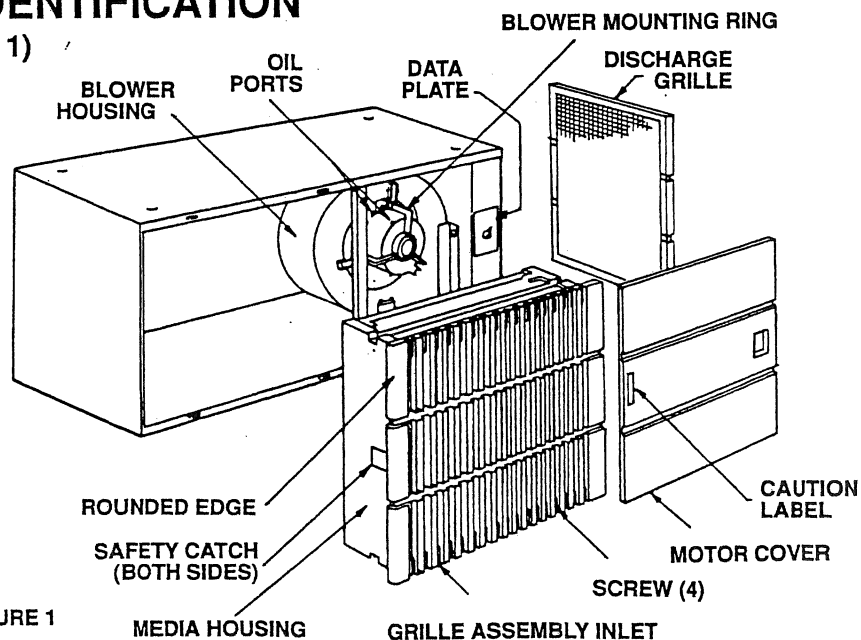

FIGURE 1
(Refer to Figure 1)
1. Loosen four screws on grille assembly (Figure 1).
2. Compress safety catches and pull grille assembly toward you to remove. **NOTE:** Media housing remains attached to grille. (See Figure 1.)
Compress safety catches and set grille assembly into unit, making sure rounded edge is toward end of unit. (See Figure 1.) Align fasteners with receptacles and tighten four screws.
Data Plate (See Figure 1)